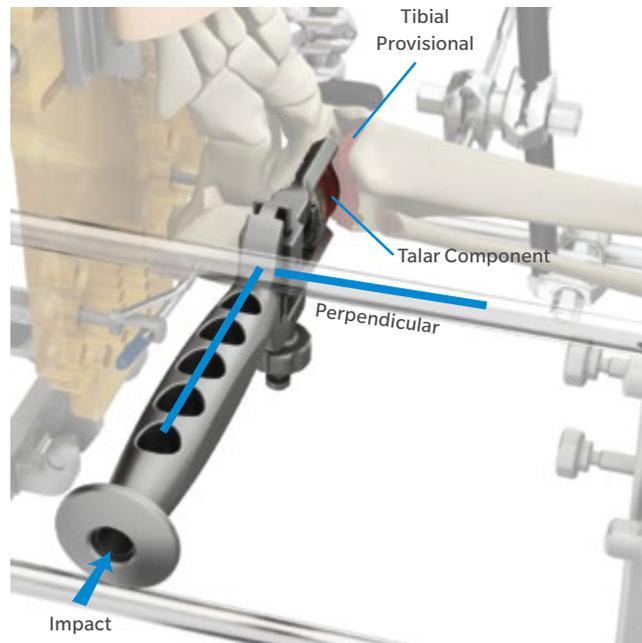

Fig. 85
- Impact the inserter with a graduated force to drive the implant in until the rails reach the end of the drilled rail holes (Fig. 85).